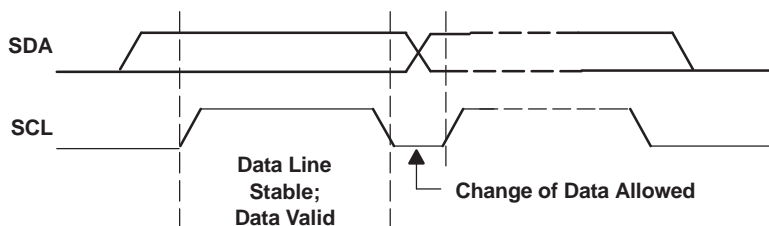

Figure 43. Bit Transfer on the I2C Bus
- Data is transmitted over the serial bus in sequences of nine clock cycles (8 data bits followed by an acknowledge bit). The transitions on the SDA line must occur during the low period of SCL and remain stable during the high period of SCL (see Figure 43).